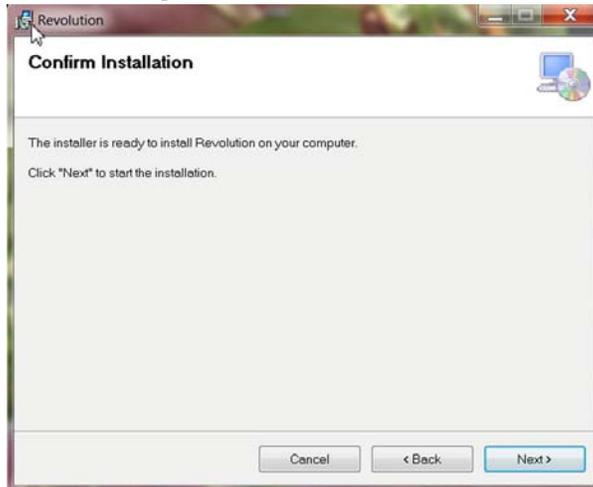

Figure 4-7. *Confirm Installation Screen*
6. Next is the *Confirm Installation* (Figure 4-7) screen, click Next.